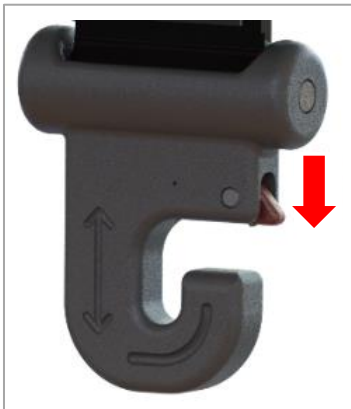

Figure 10-1
1. Open the red retaining tab on the QRS by pushing it down. (See figure 10.1)